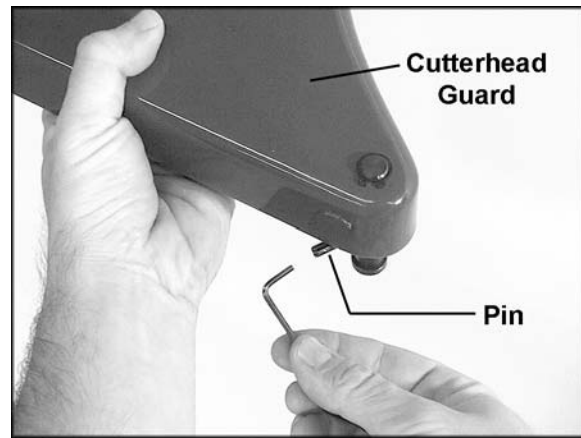

Figure 8-1
1. Insert a small hex wrench, or similar object, into the pin on the guard tension mechanism (Figure 8-1).